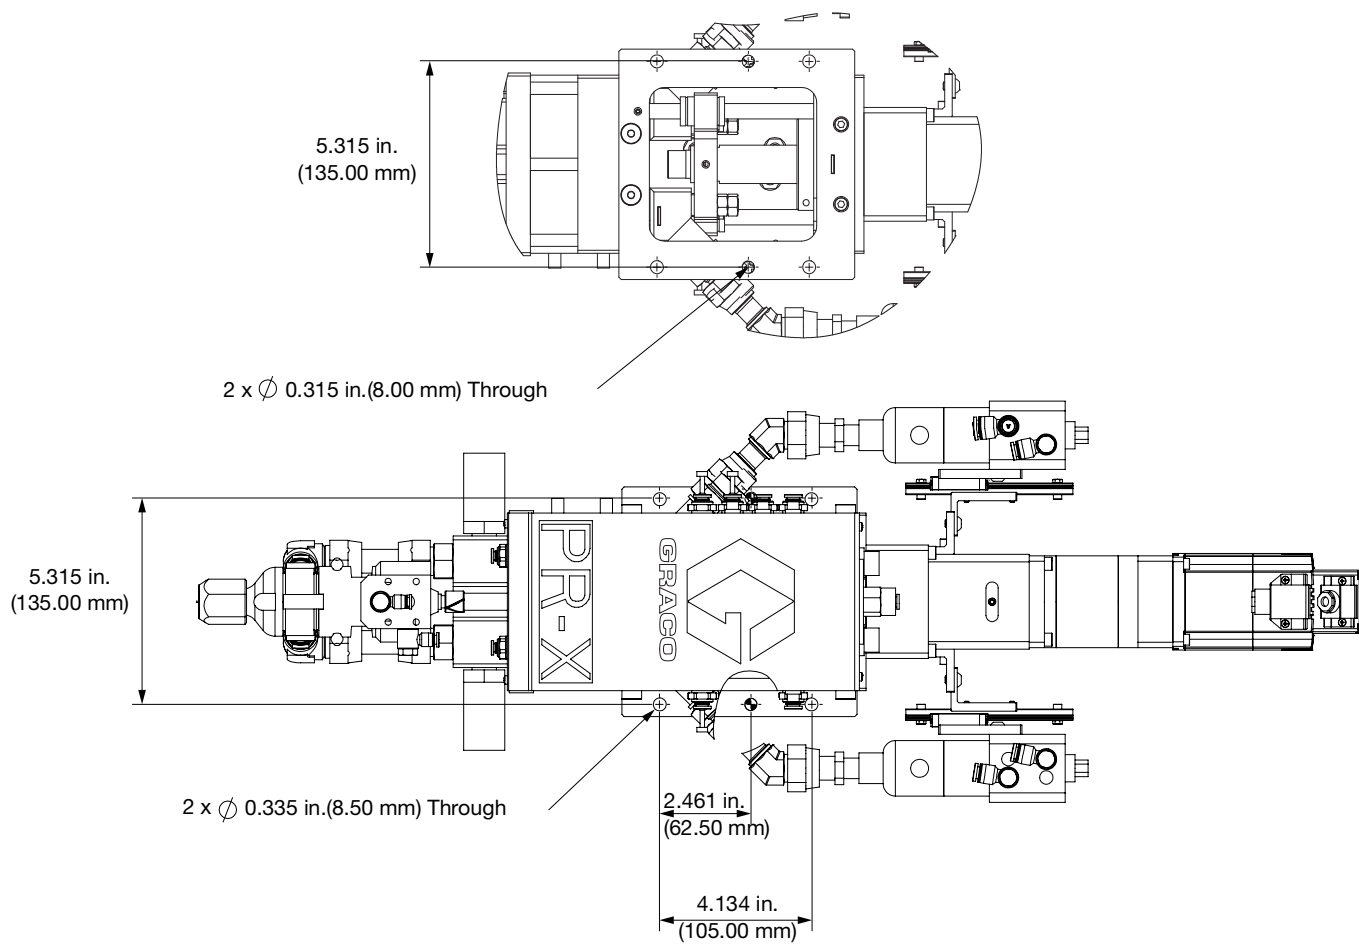

FIG. 4: Mounting Hole Dimensions for Installing the PR-X Metering Unit
1. The PR-X Metering Unit (H) can be directly mounted on a Customer Robot (M) or remotely mounted on a motion table or table top. Verify the location has access to compressed air and AC power.
2. Place the PR-X Metering Unit (H) onto the designated location.
3. Attach the PR-X Bottom Plate (AJ) to the selected location by installing fasteners (not provided with the PR-X metering unit) through the four mounting holes. There are also two position pin holes. Refer to FIG. 4 for mounting hole dimensions.